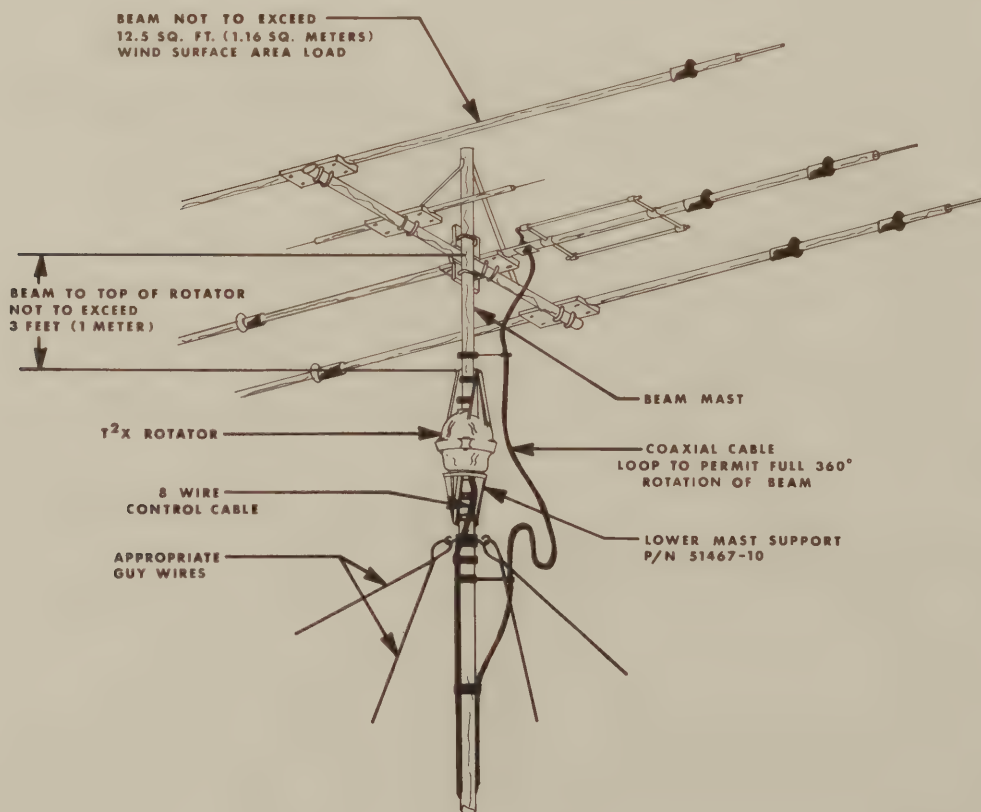

FIG. 3 - POLE MOUNTING
3. A telescoping or other type as shown, see figure 3, can also be used. This installation is similar to #2 above and requires the optional Heavy Duty Lower Mast Support Kit and must be derated to 12.5 square feet ( $1.16M^2$ ).